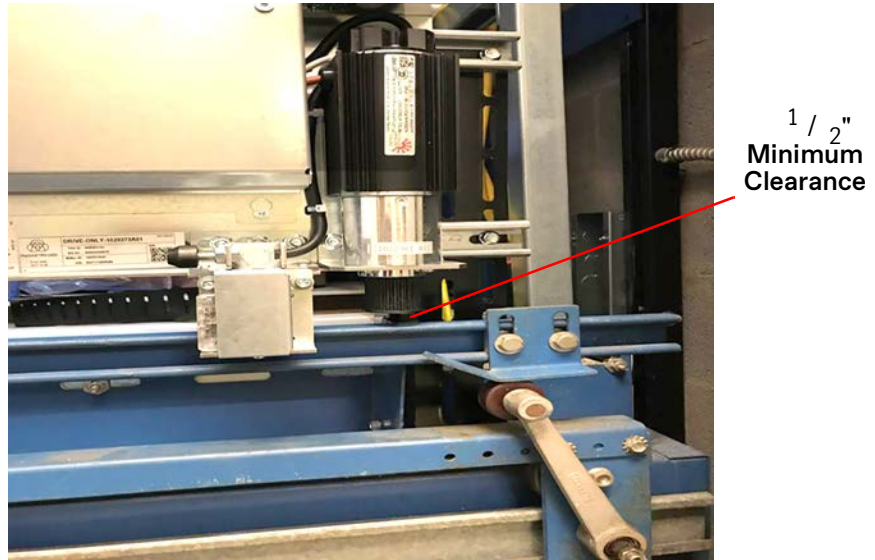

Figure 4 - Door Operator Drive Pulley Clearance
4. Verify that the door operator drive pulley will clear the car header or unistrut by a minimum of  $\frac{1}{2}$ ". To adjust, raise or lower the unistrut on the vertical support angles. See Figure 4.